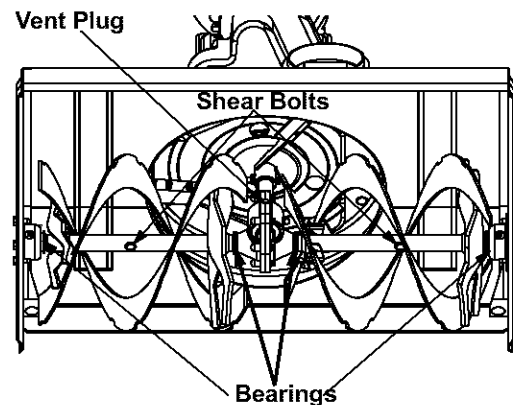

Figure 12
- At least once a season, remove the shear bolts from the auger shaft and spray lubricant inside the shaft. See Figure 12.
- Every season lubricate the auger bearings and the bearings on the side of the frame with light oil. See to Figure 12.
The augers are secured to the spiral shaft with two shear bolts and hex lock nuts. If you hit a foreign object or ice jam, the snow thrower is designed so that the bolts may shear. Refer to Figure 12.